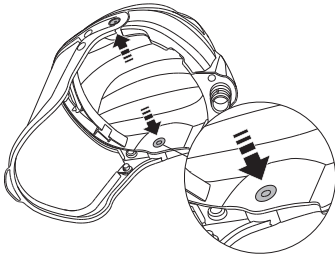
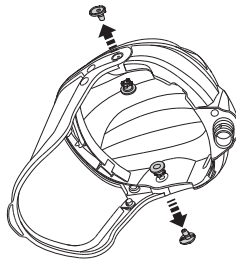
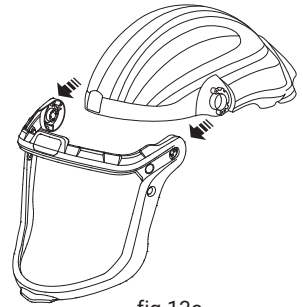

fig.13a
fig.13b
fig.13c
- Push out the button from inside of the visor (See fig.13a), disassemble two buttons from both sides (See fig.13b), remove the visor frame assembly and replace the new one (See fig.13c).